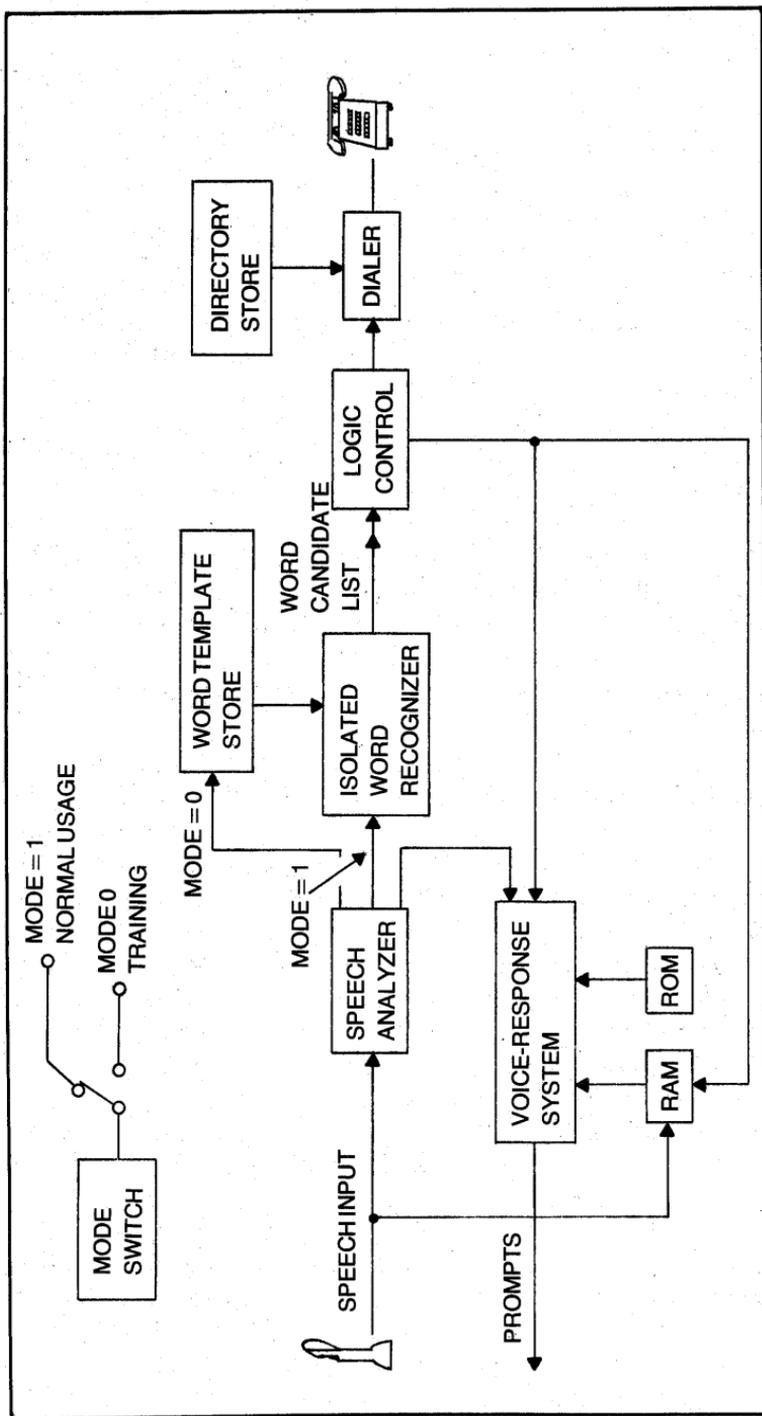
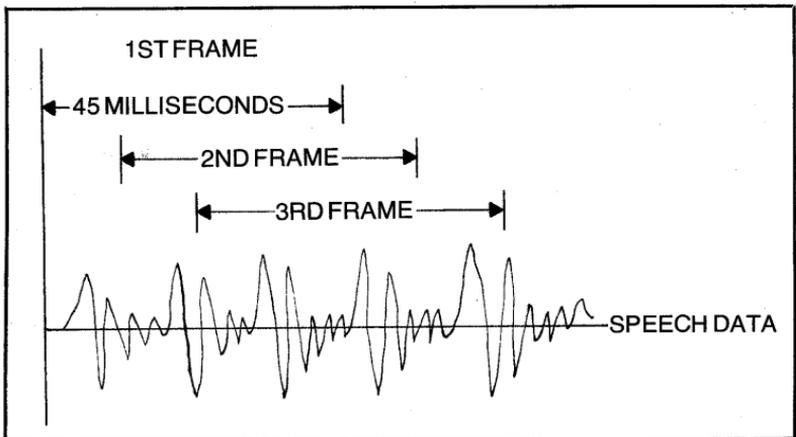

Fig. 7-2. The block diagram for the repertory dialer.
Fig. 7-3. A demonstration of overlapping data frames.
Look at Fig. 7-2. The speech analyzer has two output paths for analyzed data—the recognizer is at the end of one path; the template storage is at the other. When the unit is in its normal-usage mode (1), it draws on the reference patterns stored in the template storage during previous training sessions. The system can't do anything until you have put some names and numbers in this database.
The speech analyzer looks for linear-predictive-coding features (LPC) for each word spoken to it. It is these features that actually comprise the templates that get stored in the RAM memory locations called Word Template Store in the block diagram in Fig. 7-2. The analyzer smooths out the words by deriving its feature table from overlapping frames. That is, it divides up each word into 45-millisecond pieces that overlap with the frame in front and in back by 30 milliseconds. Figure 7-3 shows you how this smooths out the data. This approach averages out some of the odd speech characteristics that might otherwise confuse the speech-recognition circuitry.